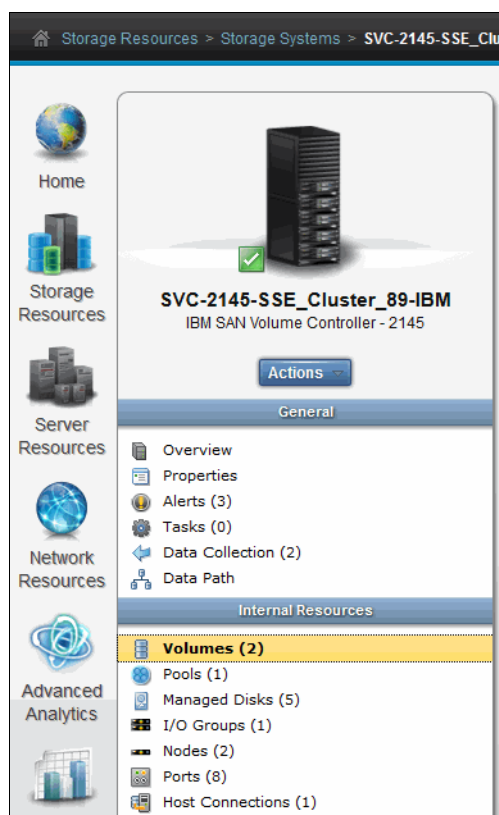

Figure 13-13 Accessing the Volumes view for a storage system
1. Click **Volumes** under the Internal Resources section, as shown in Figure 13-13.